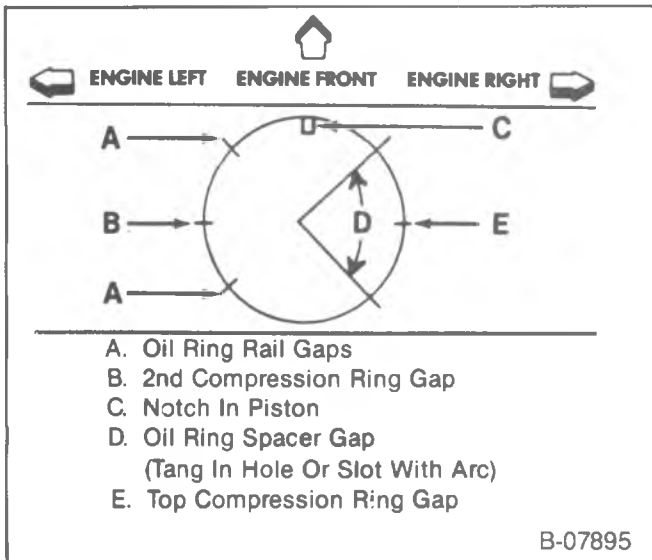

Figure 30—Piston Ring End Gap Locations
- Locate the piston ring end gaps as shown in figure 30. Lubricate the piston and rings with engine oil.
- The piston must be installed so that the notch in the piston faces the front of the engine (figure 30).